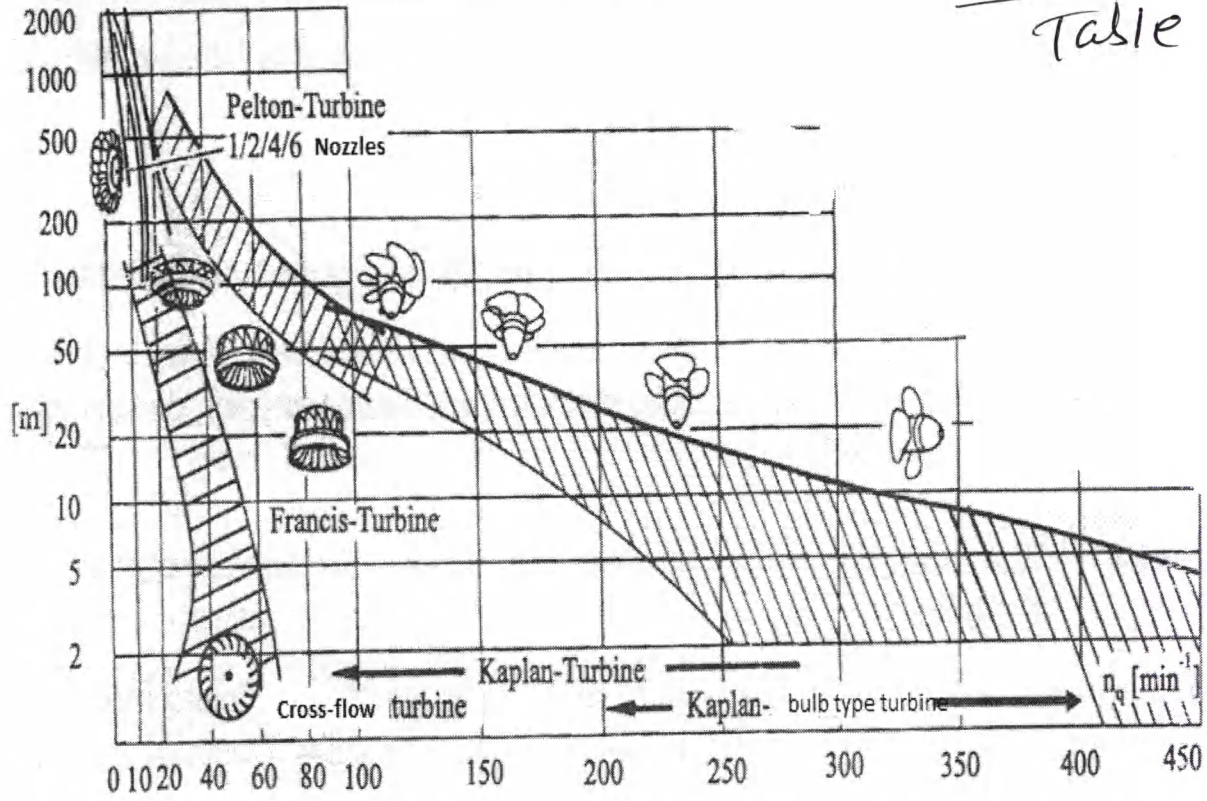

Fig. 3: Head vs specific speed curve for the preliminary determination of turbine type
- b) A micro-hydropower plant has to be implemented at an altitude of 3000 m in a National Park to get the permission from the park authority. The ambient temperature inside the powerhouse during midsummer afternoons can be up to 18° C. You will proceed with (a) the preliminary selection of an appropriate turbine by looking at the specific speed  $n_q$  in Fig 3 (b) the determine the generator rating in kVA with 50 Hz frequency and has 2 pair poles and (c) find the type of the hydropower project which operates under a discharge of 400 l/s and a gross-head of 60 m. Take the overall plant efficiency of 60 % and head loss 5%. To control the power output, an ELC with ballast load is suggested and the villagers also plan to use tube lights. Use the appropriate data from Table 4 below. Give your conclusive remarks on your result. [2+2+2+2=8]